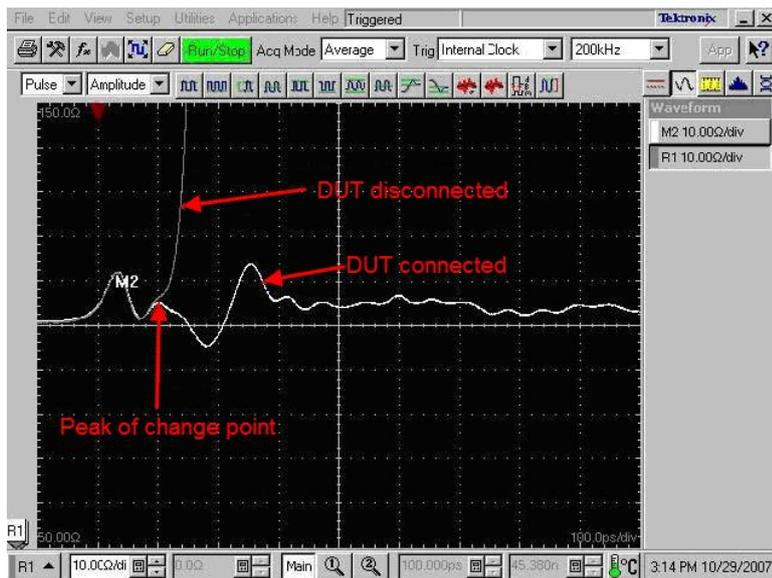

Figure 21 Adjust Horizontal Position
6. Adjust the **HORIZONTAL POSITION** knob so that a **M2** (unfiltered impedance) waveform peak of change point becomes 2 divisions from left (see Figure 21).